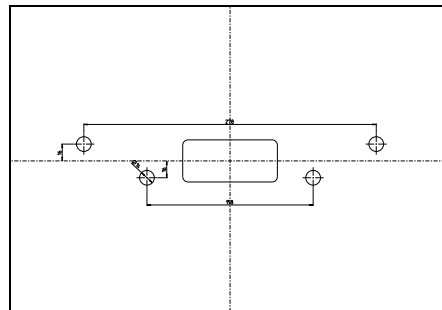

Fig. 2: Drilling dimensions
- ▶ For drilling dimensions for the anchor rods, see Fig. 2.